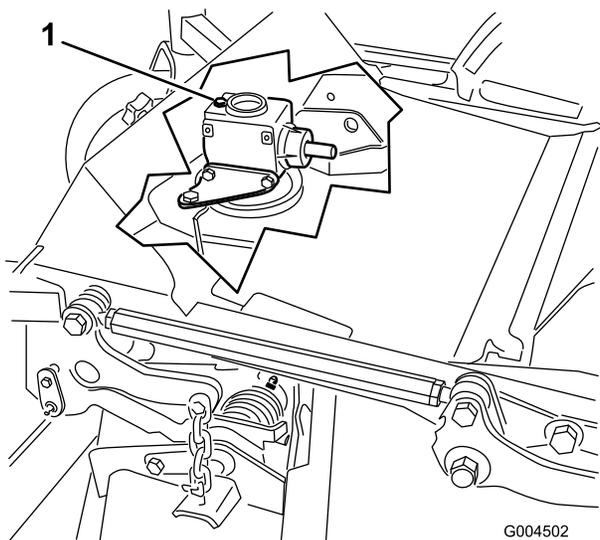

Figure 38
6. Remove the dipstick/fill plug from the top of the gear box (Figure 38) and make sure that the lubricant is between the marks on the dipstick.
6. Remove the dipstick/fill plug from the top of the gear box (Figure 38).